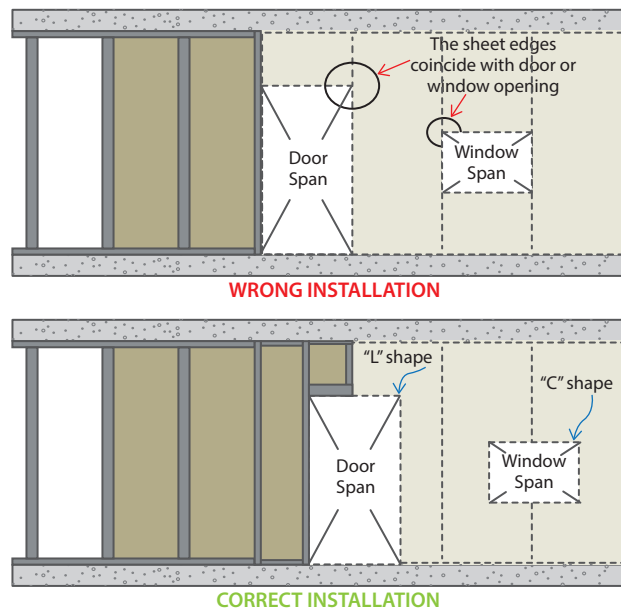

Figure 7: Sheet Layout with Door and Window Opening
- d. Install the stud for door or window prior to board installation as 2.1.2 and 2.1.3. Make C shape or L shape boards section to avoid cracks at the joint between the boards and the door or window edges. Ensure that the sheet edges do not coincide with the side of the door or window opening. Refer to Figure 7 for sheet layout with door and window opening.